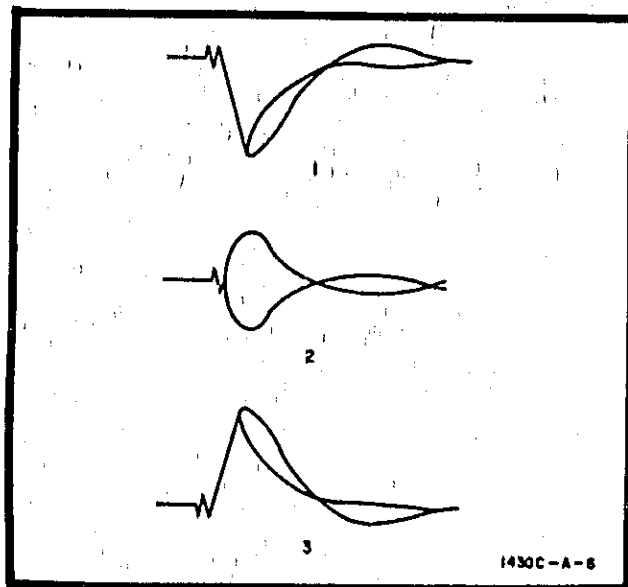

Figure 5-6. Bias Centering Waveforms
g. Using monitor oscilloscope, observe waveform at emitter of Q120. Waveform should look like one of three waveforms shown in figure 5-6.
l. Using monitor oscilloscope, observe waveform at emitter of Q102. Waveform should look like one of three waveforms shown in figure 5-6.